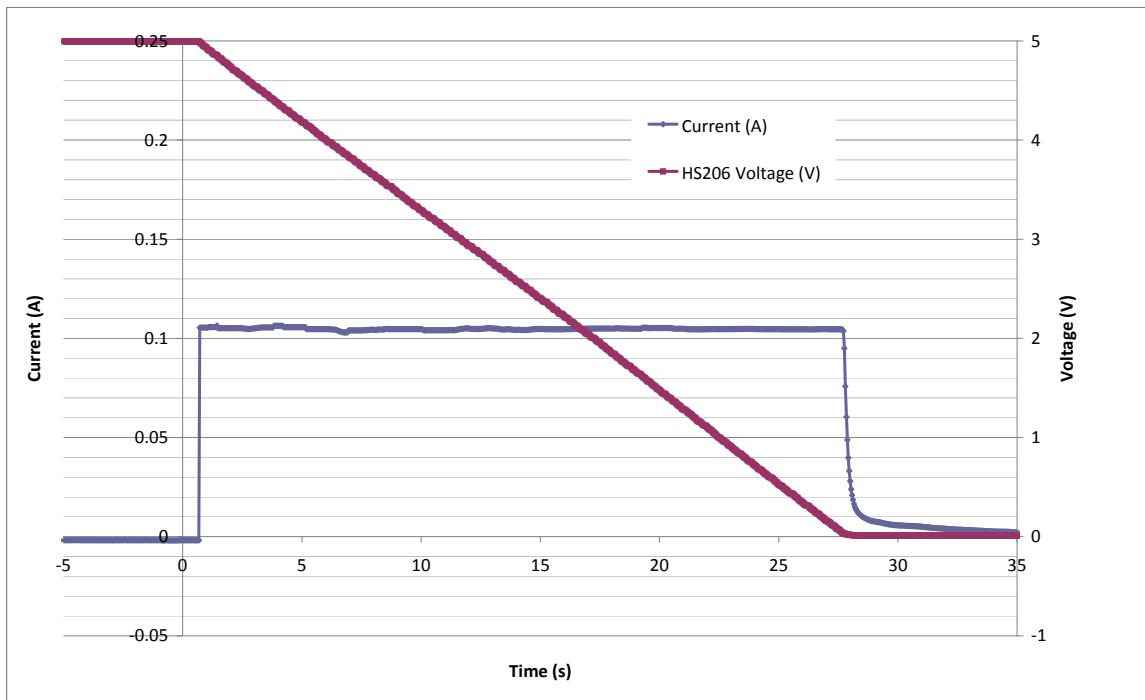

Fig 2: Measurement of DC capacitance
In its simplest form, the Equivalent Series Resistance (ESR) of a capacitor is the real part of the complex impedance. In the time domain it can be found by applying a step discharge current to a charged capacitor as in figure 2. In this figure the supercapacitor is pre-charged and then discharged with a current pulse (I). The ESR is found by dividing the instantaneous voltage step (ΔV) by I. The instantaneous capacitance (C_i) can be found by taking the inverse of the derivative of the voltage and multiplying it by I. The effective capacitance (C_e) is found by dividing the total charge removed from the capacitor (ΔQ_n) by the voltage lost by the capacitor (ΔV_n). Note that ΔV , or IR drop, is not included because very little charge is removed from the capacitor during this time. C_e shows the time response of the capacitor and it is useful for predicting circuit behavior in pulsed applications.
In the example of Fig 2, for a $\Delta V_n = 3.0V - 1.0V = 2V$, the corresponding $\Delta t_n = 22.52s - 11.72s = 10.8s$. $C = I \times \Delta t_n / \Delta V_n$ where $I = 0.105A$, therefore $C = 0.105 \times 11.2s / 2.0V = 567mF$.